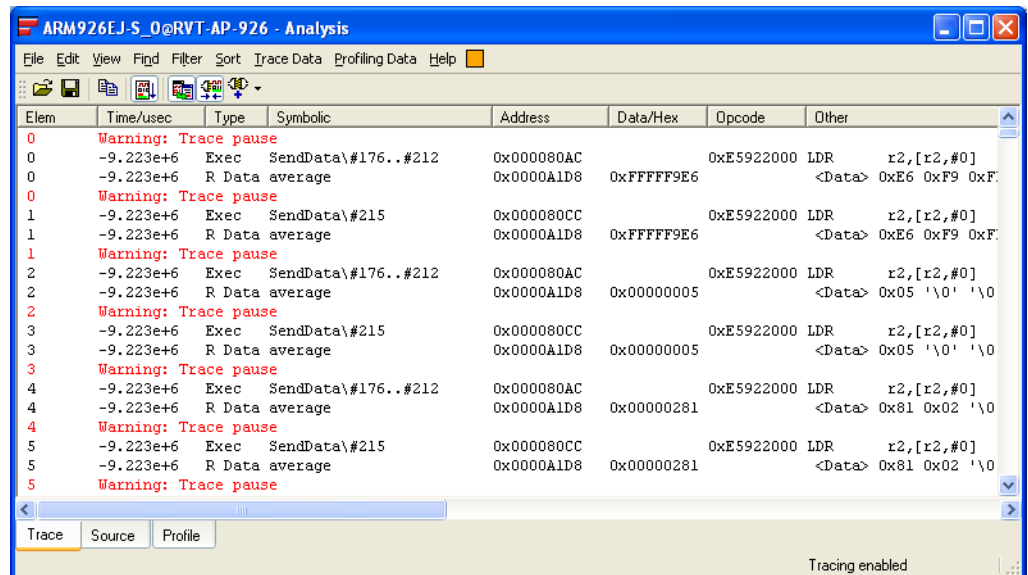

Figure 10-60 Captured trace of data reads from average
- Figure 10-60 shows an example: